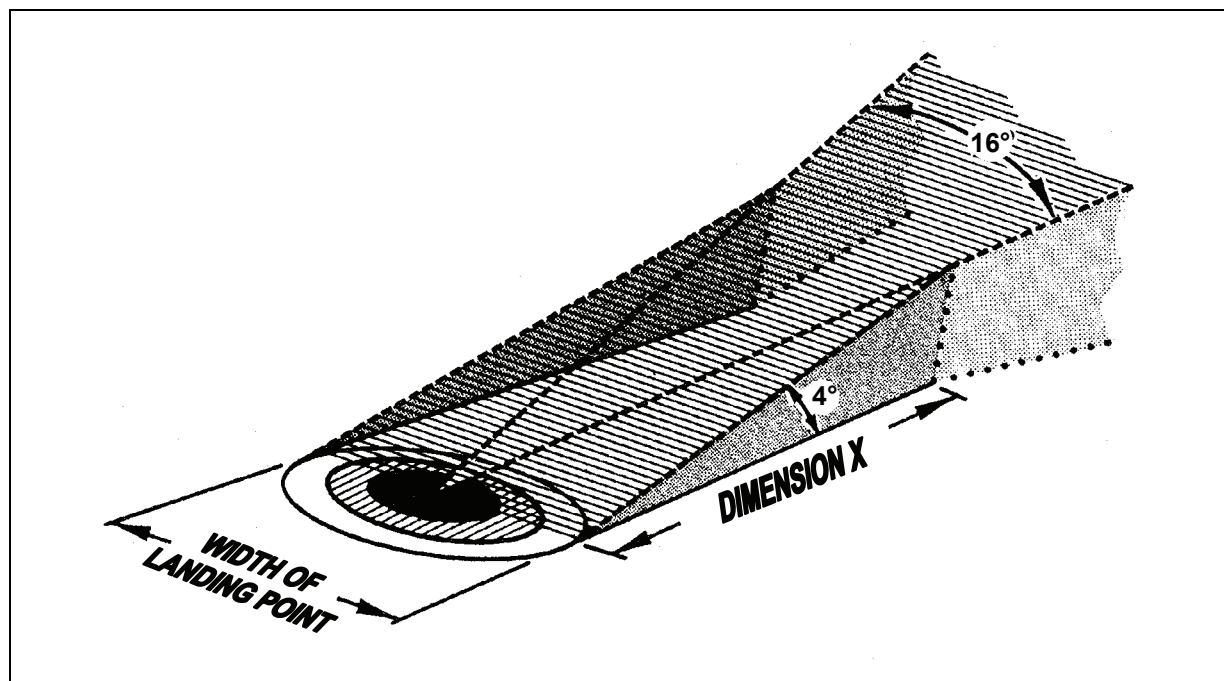

Figure 4-6. Approach and Exit Path
- Approach and Exit Path.** The approach and exit path is a 16-degree (277 mils) sector or arc extending outward and is measured from the center of the landing point (Figure 4-6). The V-shaped approach and exit path is depicted by the dashed and dotted line in the illustration. The 4-degree maximum obstruction angle applies to the entire area within the approach and exit path.